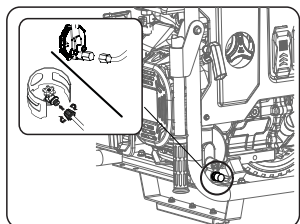

Fig 10
- Connect the gas pipe to the intake nozzle of regulator ; Open the valve of LPG bottle (See fig 10)